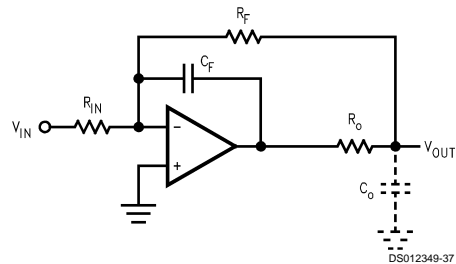

FIGURE 6.
*Figure 6* shows a method for compensating for load capacitance ( $C_o$ ) effects by adding both an isolation resistor  $R_o$  at the output and a feedback capacitor  $C_F$  directly between the output and the inverting input pin. Feedback capacitor  $C_F$  compensates for the pole introduced by  $R_o$  and  $C_o$ , minimizing ringing in the output waveform while the feedback resistor  $R_F$  compensates for dc inaccuracies introduced by  $R_o$ . Depending on the size of the load capacitance, the value of  $R_o$  is typically chosen to be between  $100\Omega$  to  $1\text{ k}\Omega$ .